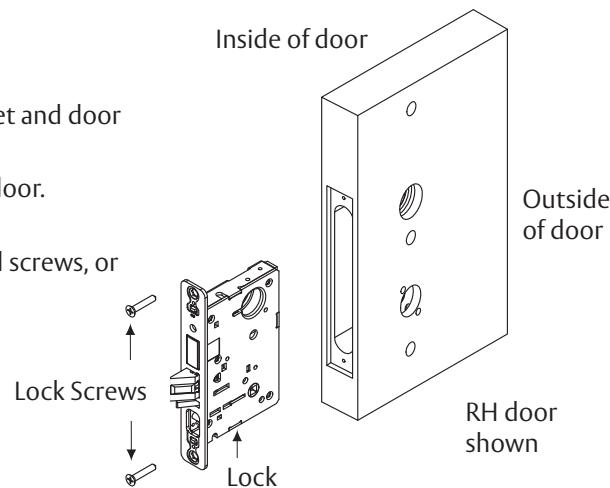

Figure 6
2. Ensure handing of lock matches handing of door. Slide lock into door. (Figure 6)
3. Temporarily hand tighten two (2) lock screws (#12 x 1-1/4" wood screws, or #12-24 x 1/2" machine screws).